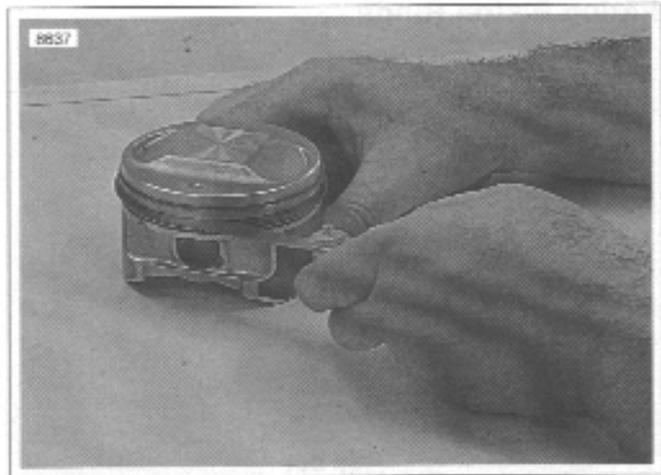

Figure 3-101. Measuring Ring Clearance in Groove
4. See Figure 3-101. Check for proper side clearance with thickness gauge, as shown. See 3.1 SPECIFICATIONS.